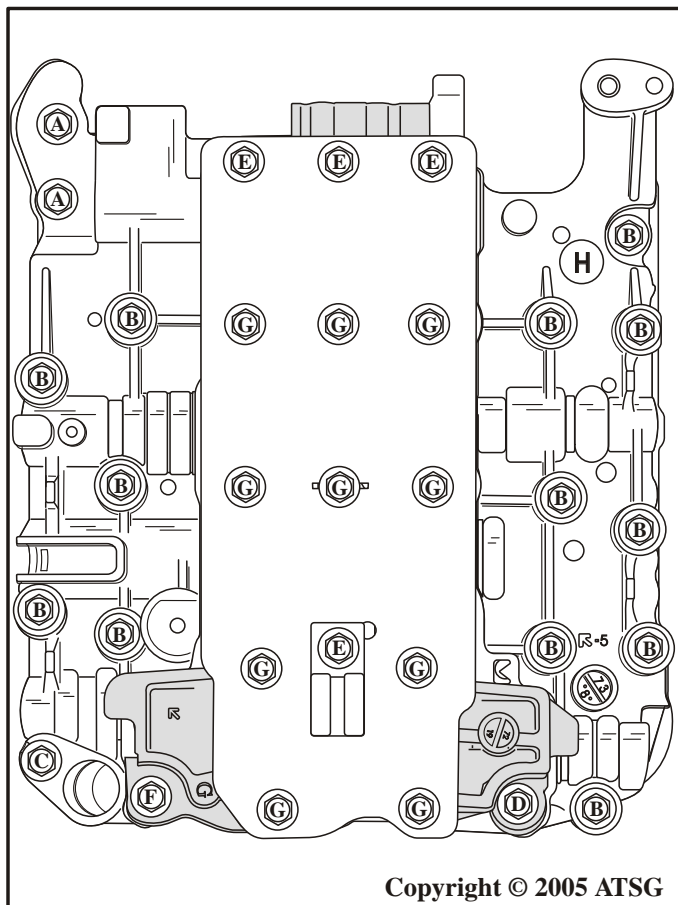

Figure 29
7. Remove the valve body to case mounting bolts as shown in Figure 29.
Note: Remove all valve body bolts "Except" the bolts that we labeled with "E", as shown in Figure 29. The bolts labeled with "E" are solenoid body to main valve body bolts.